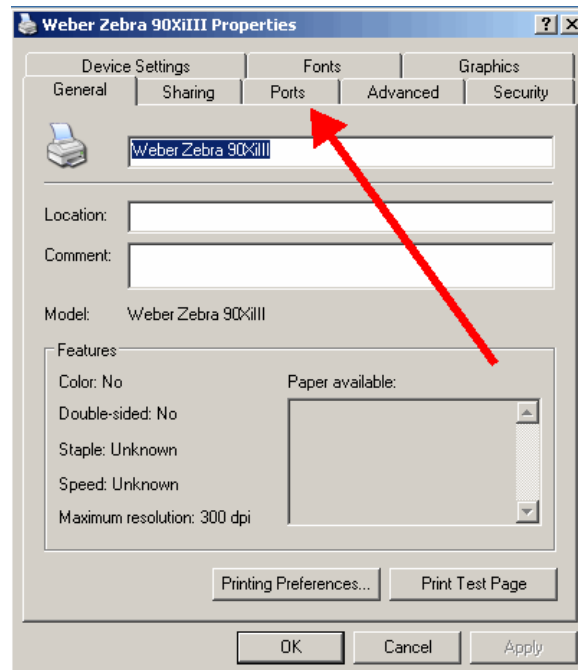

Figure 3-17
3.3.3. Click on the *Ports* tab. (Figure 3-17)